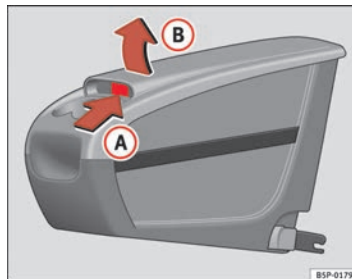

Fig. 114 Mobile stowage compartment Opening
- Lift the cover **(B)**, in area **(A)** ⇒ page 143, fig. 114.